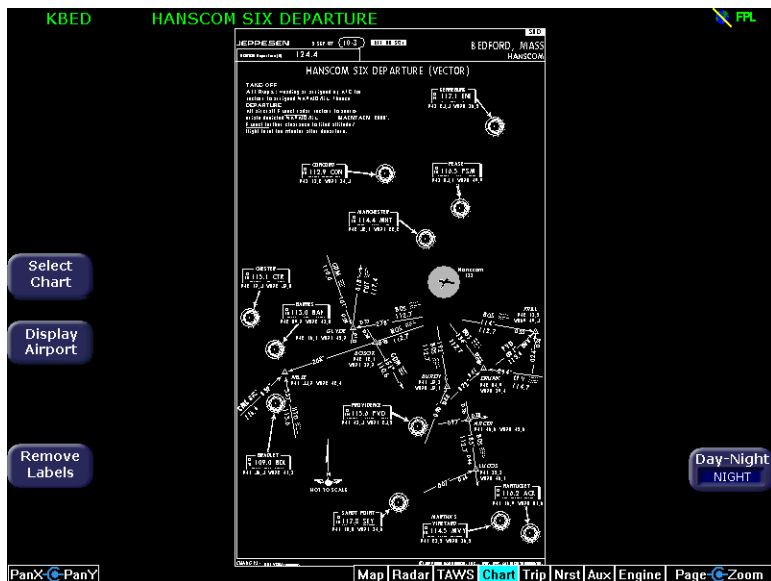

Figure 6.5 Airport Departure Chart (Night View)
- 11) **Day/Night**—Toggles the chart display mode between the Day (black text on a white background) and Night (white text on a black background) modes. Other colors such as water or shaded terrain are also adjusted between Day and Night modes. See Figure 6.5 on page 56 for an example of a chart in Night Mode.
Charts that cannot be split into smaller sections are shown as a complete chart, as shown in Figure 6.5, with the View button not displayed, since only one View type is available.